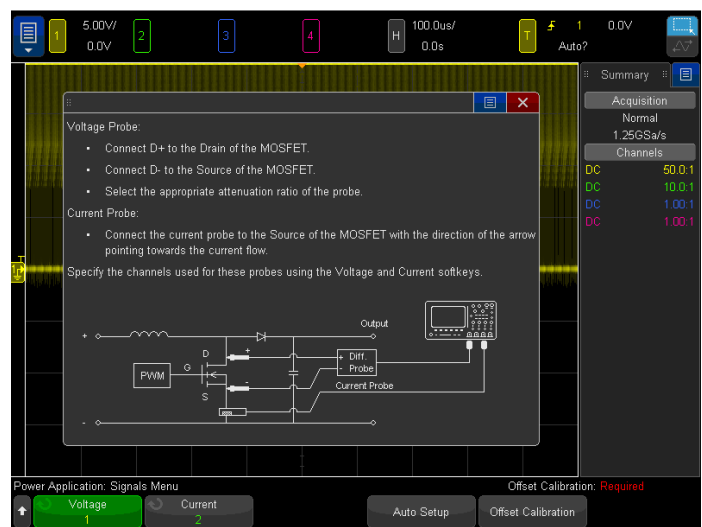

Figure 19. Connecting the voltage and current probes to the transistor switching device for the Rds(on) measurement.
5. Connect the N2790A high-voltage differential probe between the scope's channel-1 input to the drain (red lead) and source (black lead) of the switching transistor as illustrated in the on-screen connection diagram of Figure 19. If using Keysight's SMPS training kit, connect to TP3 (red lead) and TP4 (black lead).